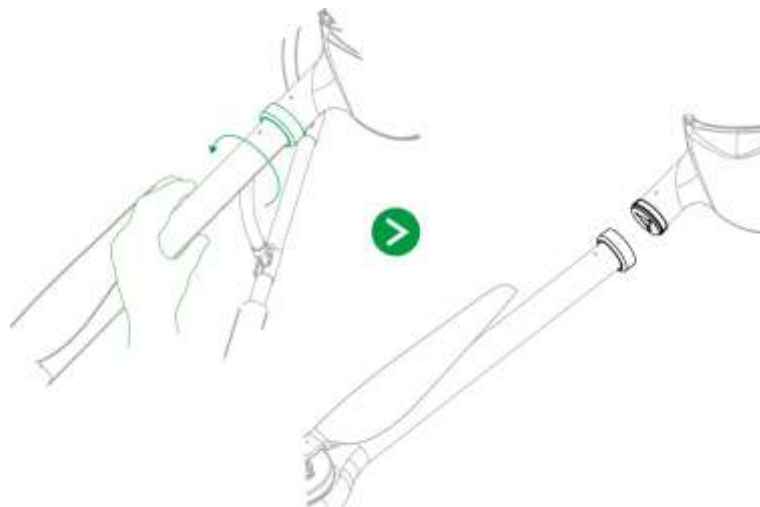

Figure 5-9
Step 2 Dismantle 6 aircraft arms in sequence, as shown in Figure 5-9.